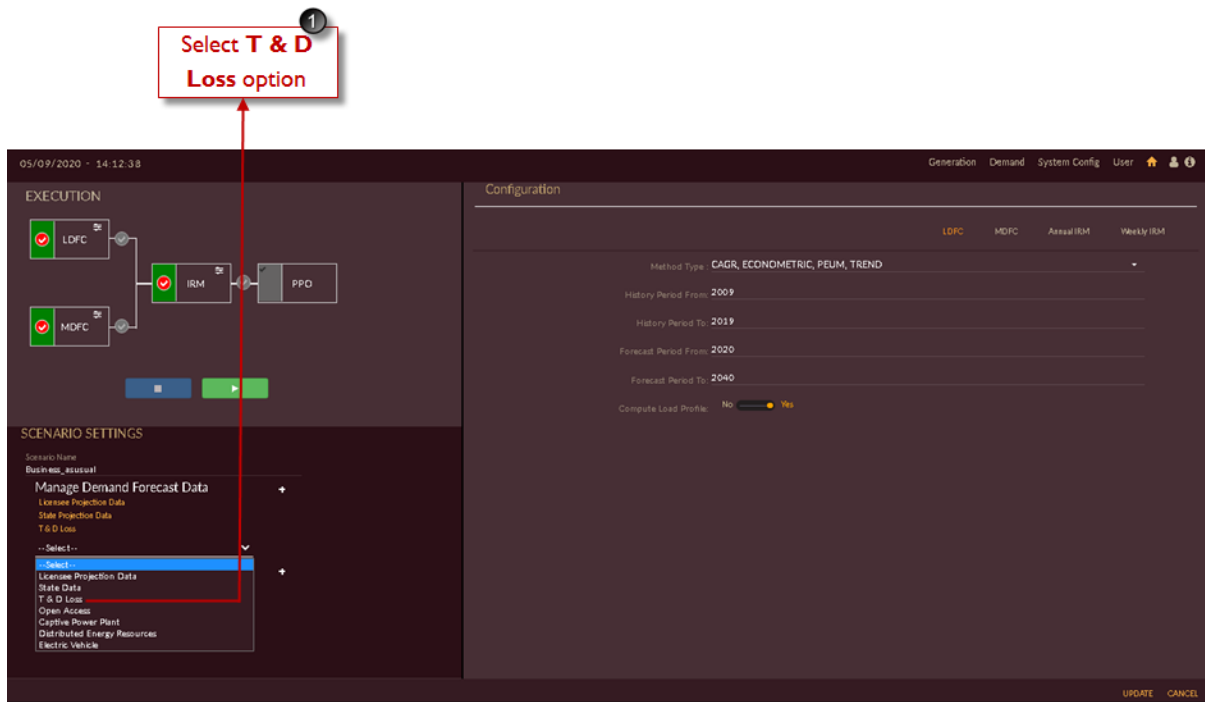

Figure 81. Manage T & D Loss Data
- Click on **Manage Demand Forecast Data** **+** icon and select **T & D Loss** from the drop-down list as shown in Figure 81.